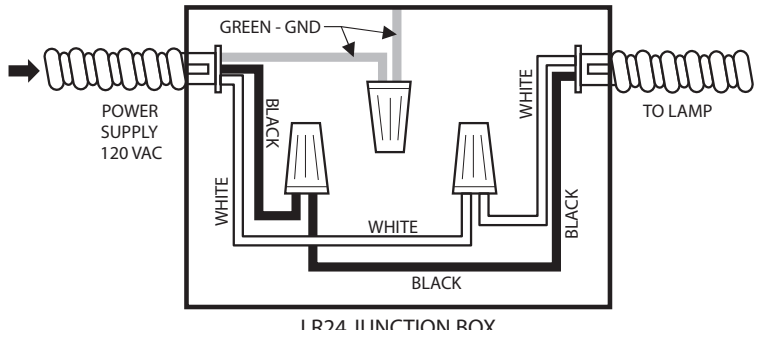

Figure 3
- Connect wires as shown in wiring diagram Figure 3.